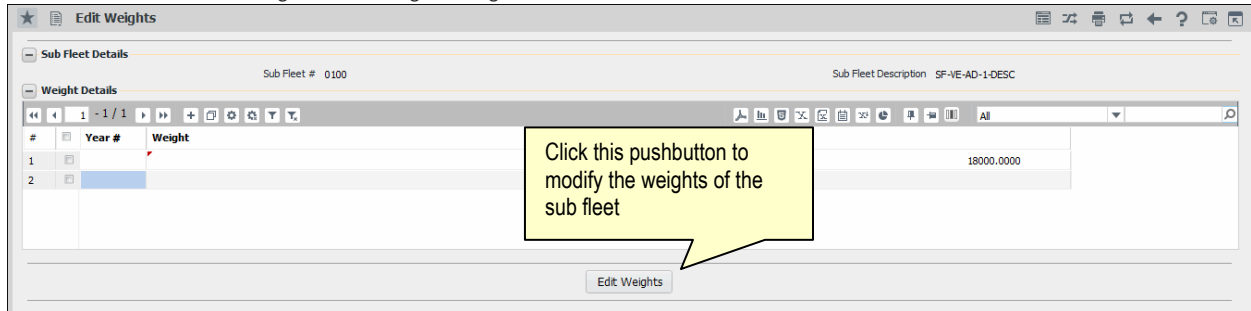

Figure 2.5 Entering the weight details for sub fleet utilization
1. Select the **Edit Weights** link in the **Edit Sub Fleet Utilization** page. The **Edit Weights** page appears. See Figure 2.5.